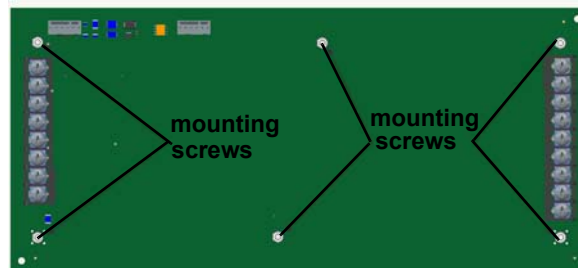
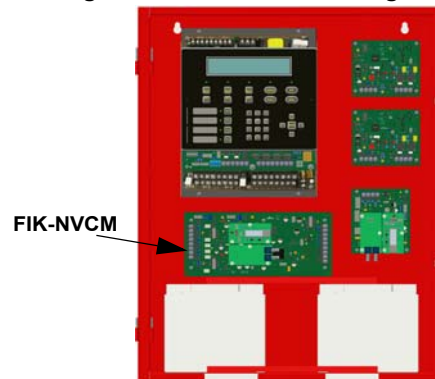

Figure 1 FIK-NVCM Mounting Holes
Figure 2 Mount Inside the FACP Cabinet
3. The FIK-NVCM mounts under the FACP board on the six mounting studs in the cabinet. Refer to Figure 1 and Figure 2.